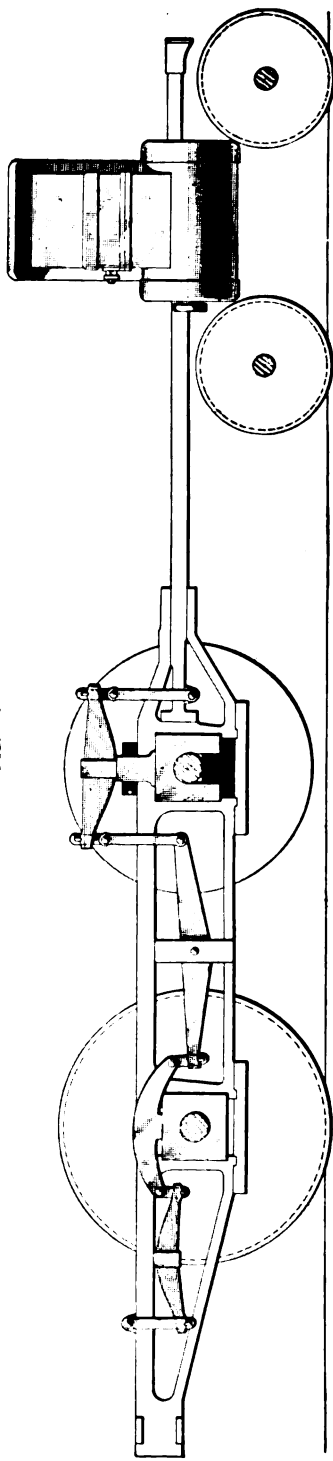

FIG. 23.
**55.** Two methods of blocking an eight-wheeled engine having the equalizer between the frames are shown in Figs. 23 and 24. The method of blocking shown in Fig. 23 permits the use of the front driving spring, and therefore is the preferable method, provided the front spring is in condition to carry its load safely. If this spring is so injured, however, as to make it unsafe, the second method of blocking had better be used, for then the spring is cut out of service. With either method, the driver brake must be cut out and the side rods removed, if sufficiently injured.